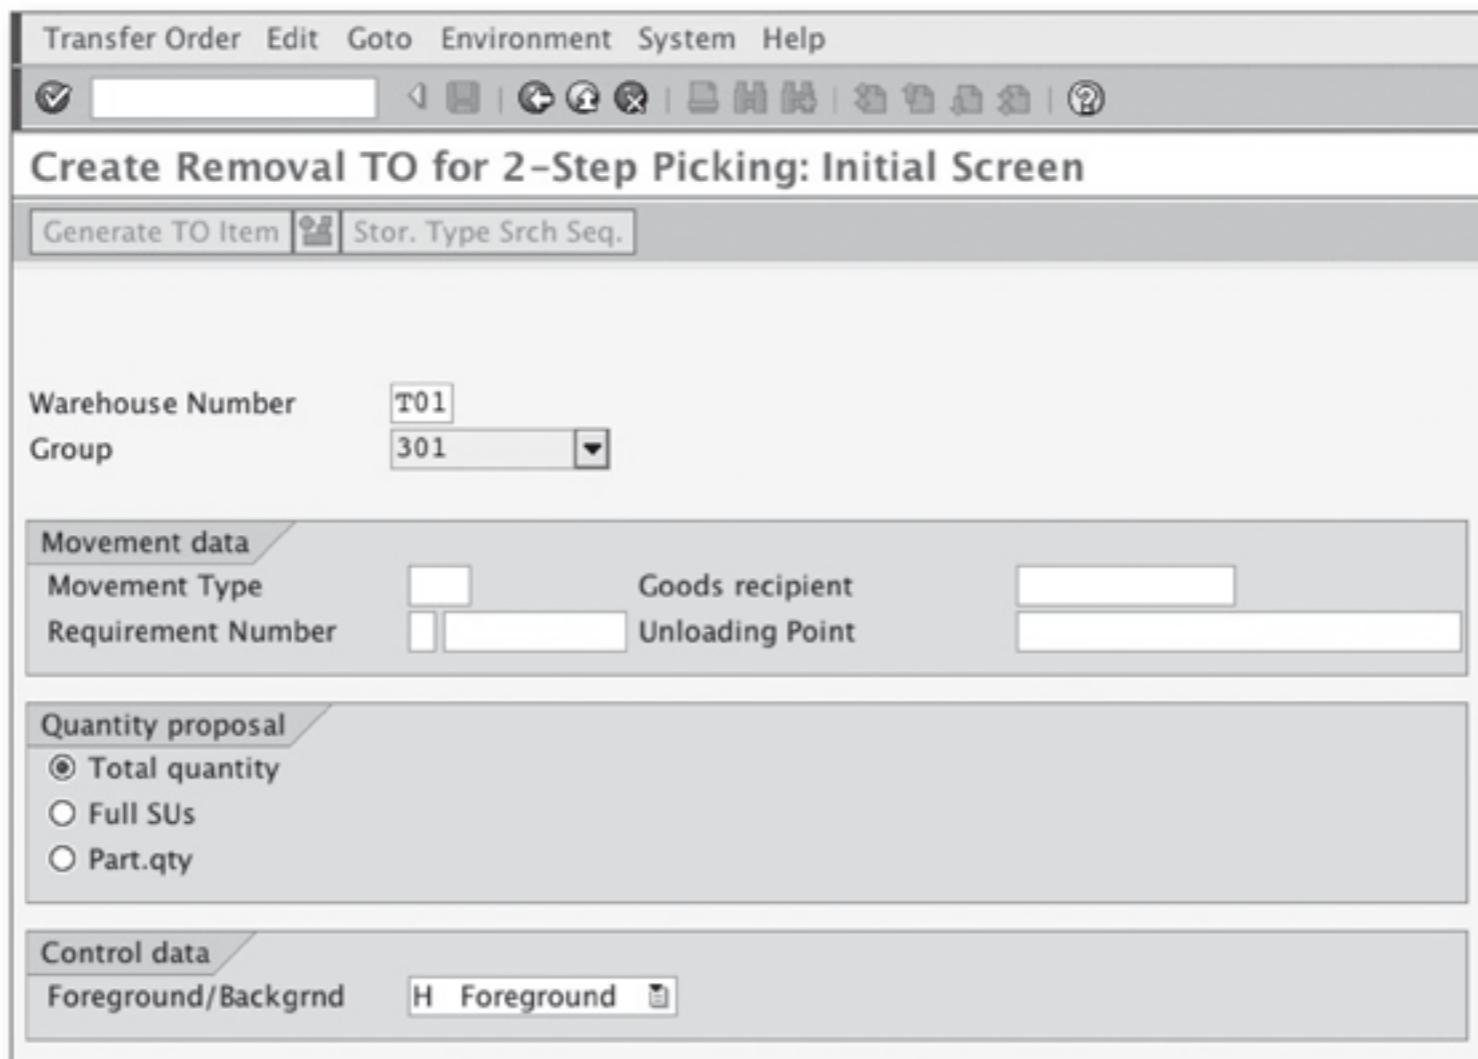

Figure 4.20 Create Removal TO for 2-Step Picking Screen
1. Choose LOGISTICS • SALES AND DISTRIBUTION • SHIPPING AND TRANSPORTATION • PICKING • CREATE TRANSFER ORDER • VIA 2-STEP PICKING, to get to the Create Removal TO for 2-Step Picking screen as shown in Figure 4.20.